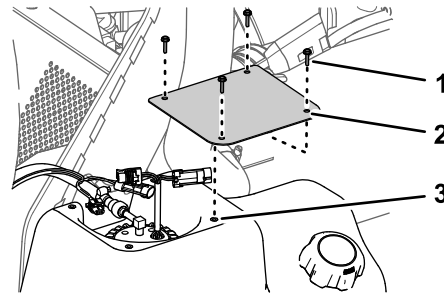

Figure 70
2. At the fuel tank, remove the 4 screws (#10 x 3/4 inch) that secure the cover to the top of the fuel tank, and remove the cover (Figure 70).